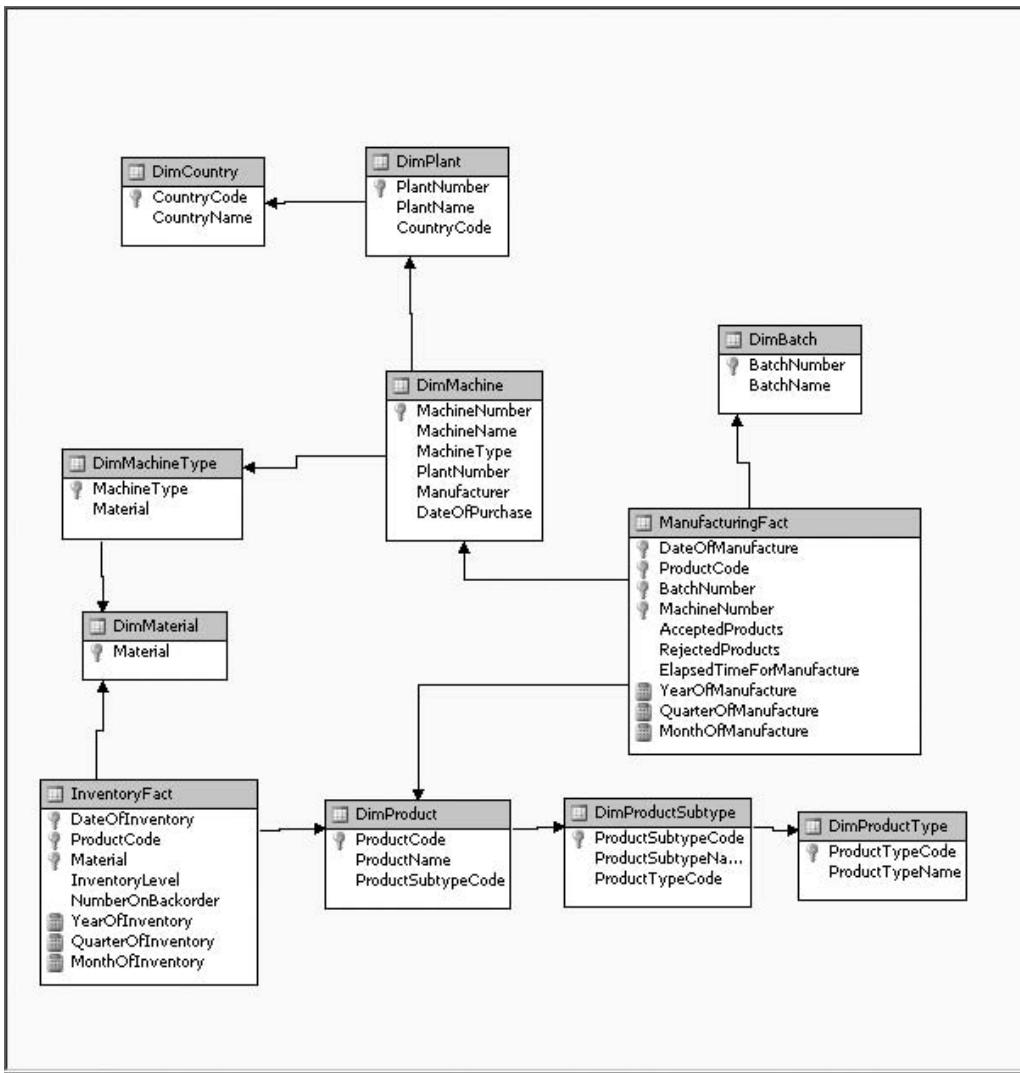

Figure 9-1 The Data Source View Design tab for the Max Min Manufacturing DM data source view
24. Create YearOfInventory, QuarterOfInventory, and MonthOfInventory named calculations in the InventoryFact table. Use the same T-SQL expressions, substituting DateOfInventory for DateOfManufacture. When completed (and with a little rearranging), the Data Source View Design tab should appear similar to Figure 9-1.